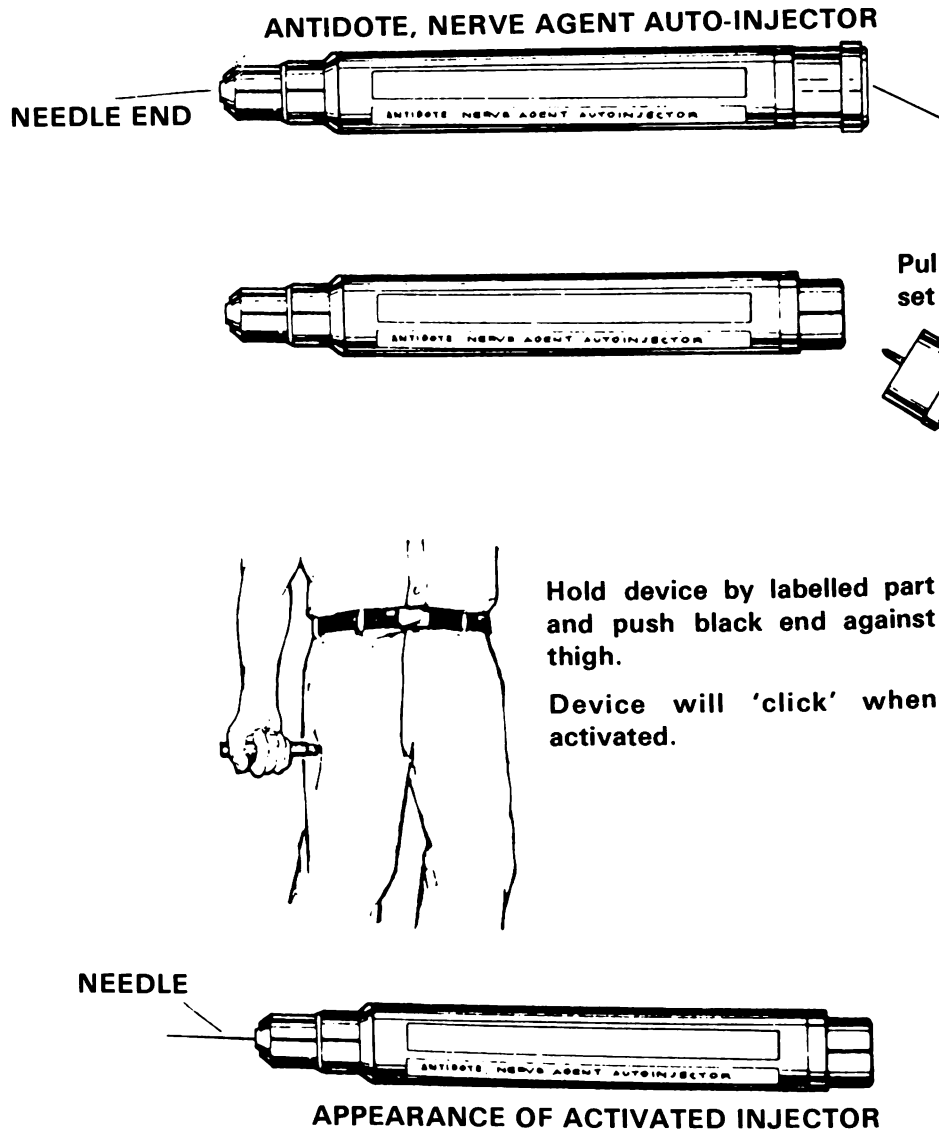

Figure 1. Antidote, nerve agent auto-injector
- b. Remove safety cap from one combo pen; place against injured soldier's outer thigh, press hard 10 seconds (fig 1).